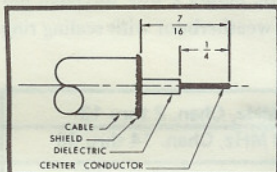

FIGURE 3
5. Consult Figure 3 and prepare each cable end as follows: